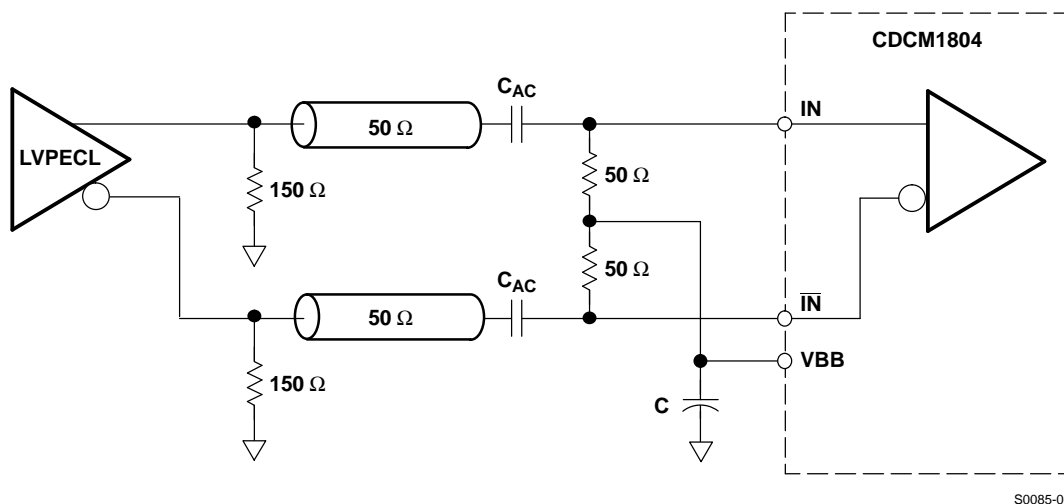

Figure 12. Recommended AC-Coupling LVPECL Receiver Input Termination
For optimized noise performance, it is recommended to properly terminate the PCB trace (transmission line). If a differential signal drives the CDCM1804, then a 100- Ω termination resistor is recommended to be placed as close as possible across the input terminals. An even better approach is to install $2 \times 50\ \Omega$, with the center tap connected to a capacitor (C) to terminate odd-mode noise and make up for transmission-line mismatches. The VBB output can also be connected to the center tap to bias the input signal to ($V_{DD} - 1.3\ \text{V}$) (see Figure 12).